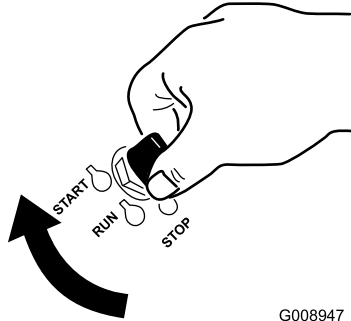

Figure 19
1. Turn the key to the START position (Figure 19).